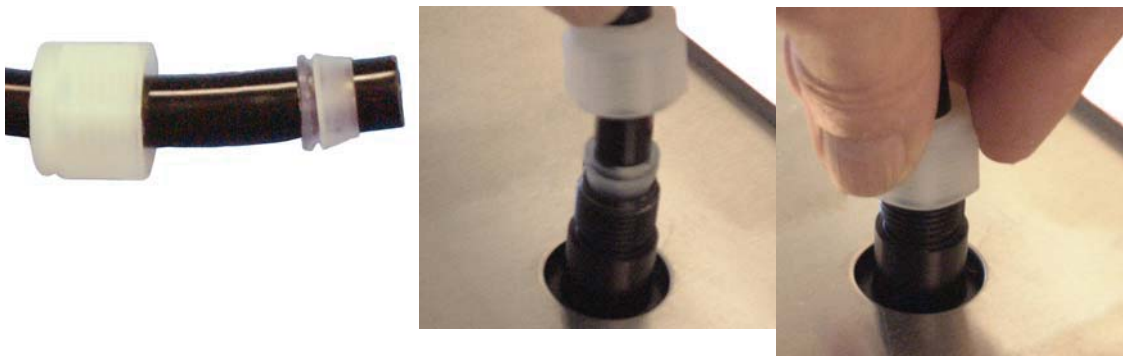

Figure 3-11 Installing Tubing onto Inlet (Example)
3. Install the nut, rear ferrule and front ferrule onto the tubing, if needed. Insert the tubing into the inlet and make sure the two ferrules contact the inlet as shown in Figure 3-11. Finger tighten the nut carefully to prevent cross-threading. Do NOT overtighten or the nut may crack.